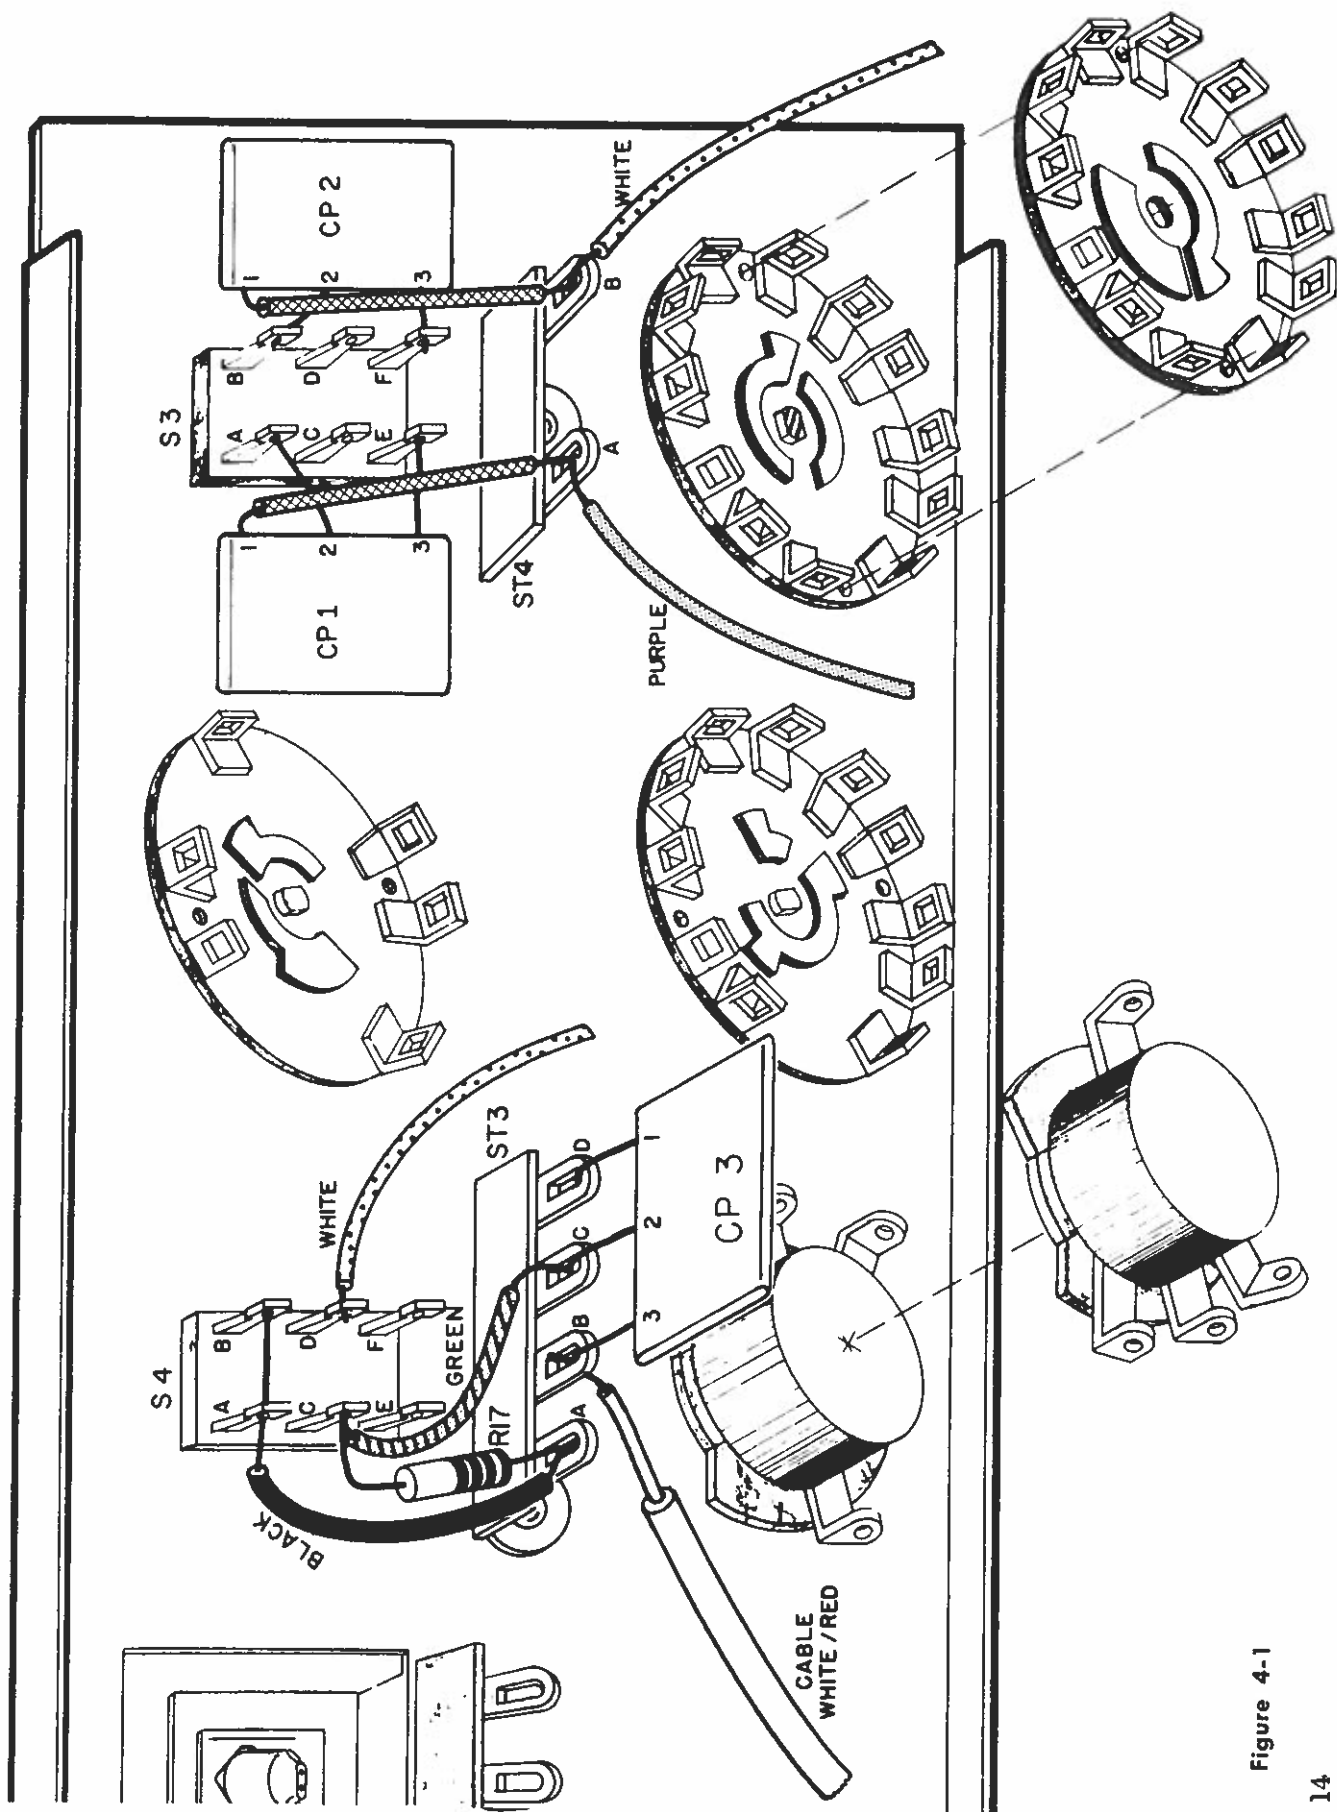

Figure 4-1
- Step 4G**  Position CP3 vertically to the panel as shown in Fig. 4-1. Solder lead No. 3 to lug B of strip ST3.
**Step 4Q**  Position the remaining printed circuit CP1 as shown in Fig. 4-1 with the printing on the circuit plate facing away from you. (so you can't read it this way — but it isn't very interesting anyway!) Solder lead No. 3 to lug E of switch S3.